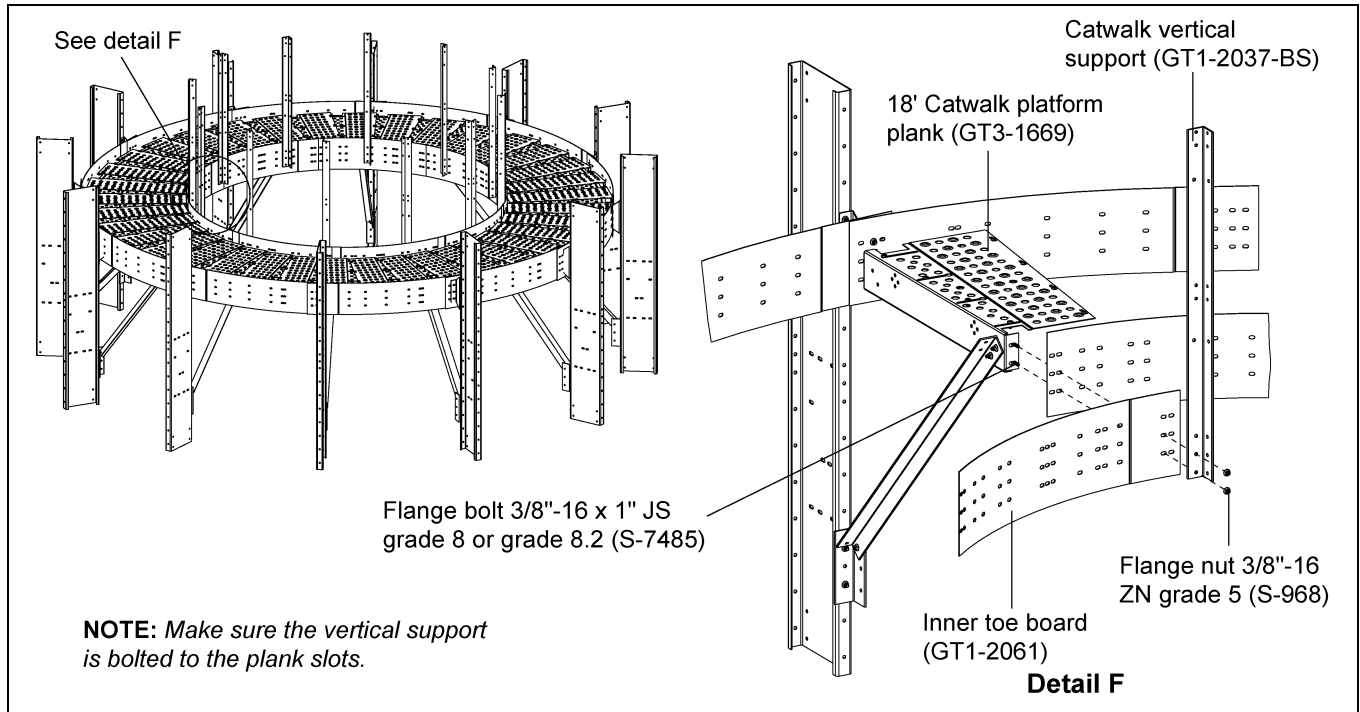

Figure 5J
1. Install all the inner toe boards (GT1-2061) to the planks (GT3-1669). (See Figure 5J.)
2. When installing the inner toe board with planks, install the catwalk vertical support (GT1-2037-BS) simultaneously at proper locations using 3/8"-16 x 1" JS grade 8 or grade 8.2 bolts (S-7485) and 3/8"-16 ZN grade 5 nuts (S-968). (See Figure 5J.)